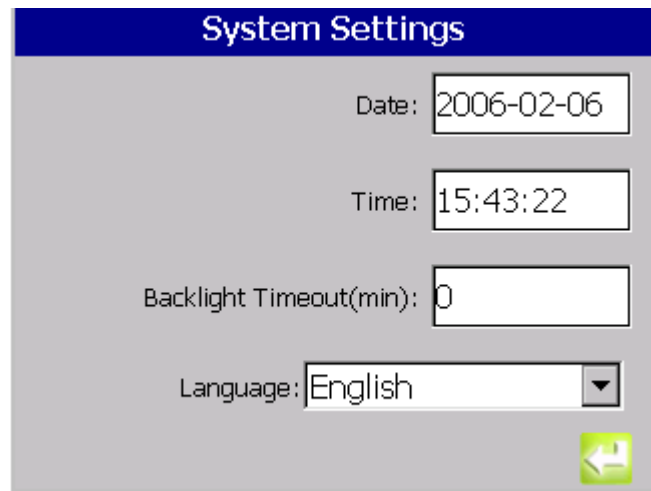

Fig 3-5 : System Settings Screen
- 1) From the Main Screen, select the **Setup** icon > **System** icon to invoke the **System Settings** screen, shown in Figure 3-5.